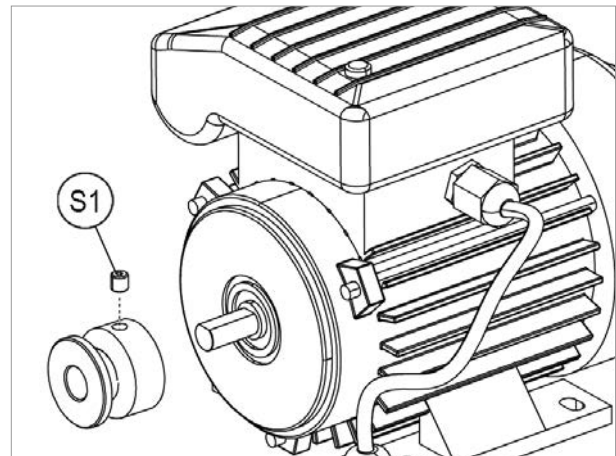

Fig. 43
- 9) Loosen the grub screw (S1) and remove the drive pulley (Fig. 43).